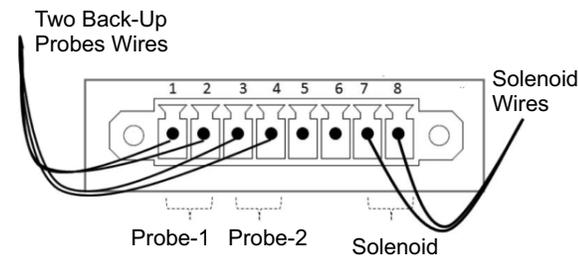

Figure 9. Probe Wires
2. Plug the solenoid/probe connector into the BUS connection and secure with a screw on the right and left side (Figure 9). The connector is keyed.